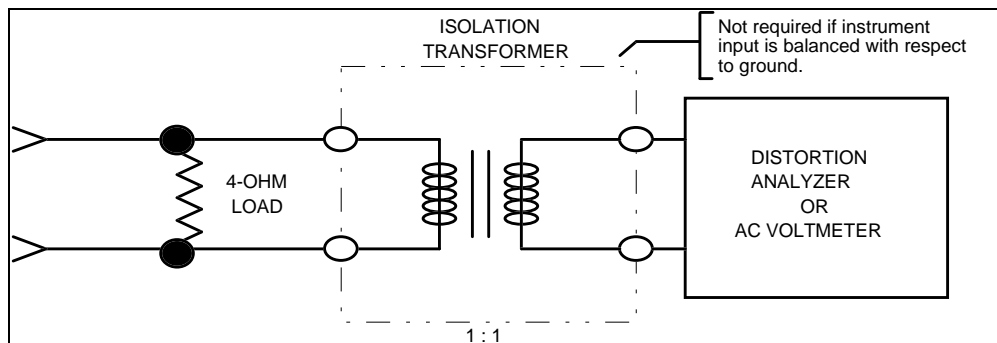

Figure 4 - Audio Isolation Transformer
- \*\* See Figure 4. This is not needed if instrument input is unbalanced with respect to ground.
Connect a 4-ohm, 25-watt resistor in place of the speaker. Connect the isolation transformer input across the resistor. Connect the isolation transformer output to the Distortion Analyzer (see Figure 4).